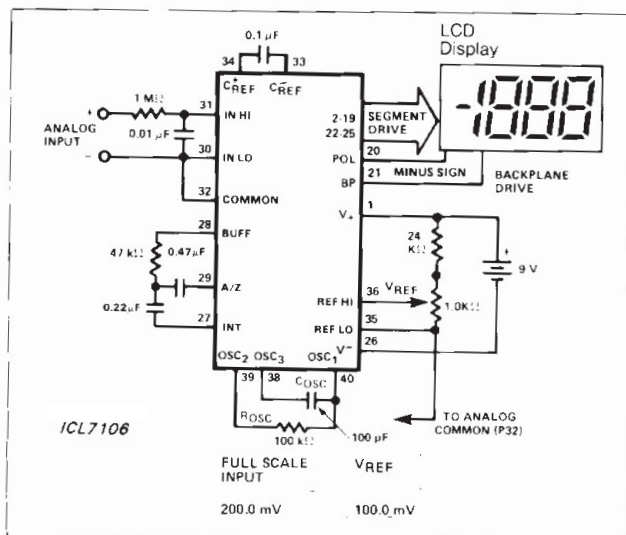
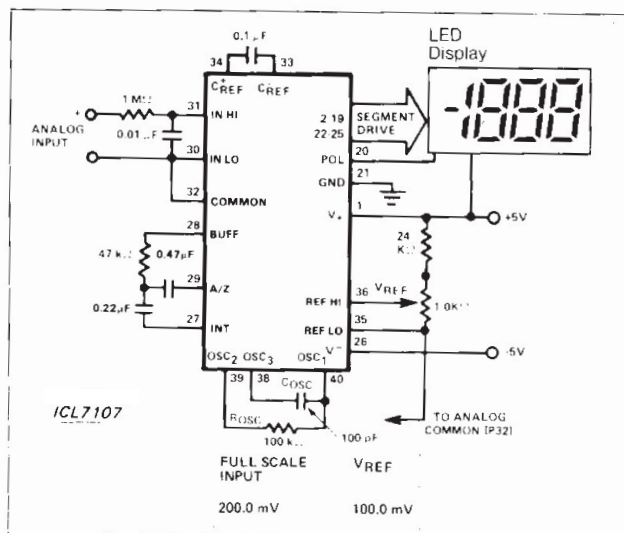

Figure 1. Maxim ICL7106 Typical Operating Circuit
Figure 2. Maxim ICL7107 Typical Operating Circuit
**Note 3:** Unless otherwise noted, specifications apply to both the 7106 and 7107 at TA = 25°C, fCLOCK = 48kHz. 7106 is tested in the circuit of Figure 1. 7107 is tested in the circuit of Figure 2.
(V+ = 9V; TA = 25°C; fCLOCK = 48kHz; test circuit - Figure 1; unless noted)
**Note 6:** Test condition is VIN applied between pin IH-HI and IN-LO through a 1MΩ series resistor as shown in Figures 1 and 2.
**Note 10:** 1MΩ resistor is removed in Figures 1 and 2.